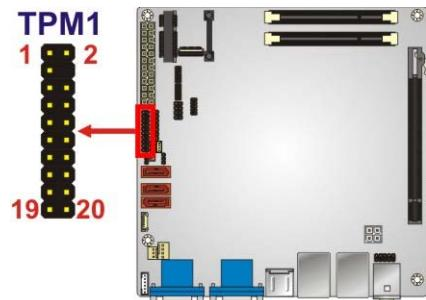

Figure 3-22: TPM Connector Location
**CN Location:** See Figure 3-22